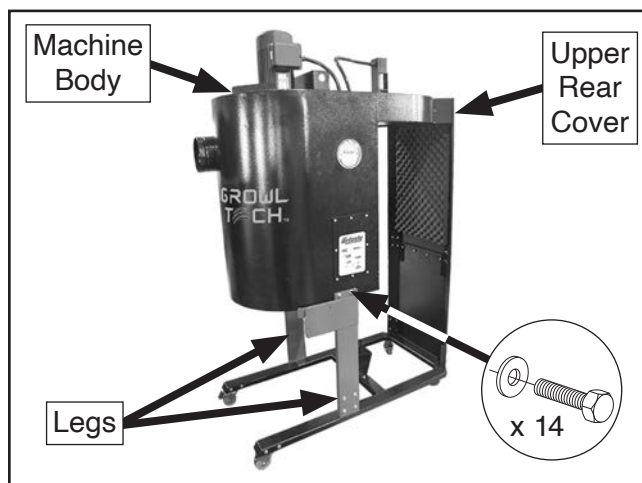

Figure 24. Machine body attached to stand.
9. Attach machine body to upper rear cover and legs with (14) $\frac{5}{16}$ "-18 x $\frac{3}{4}$ " hex bolts and (14) $\frac{5}{16}$ " flat washers, as shown in **Figure 24**.